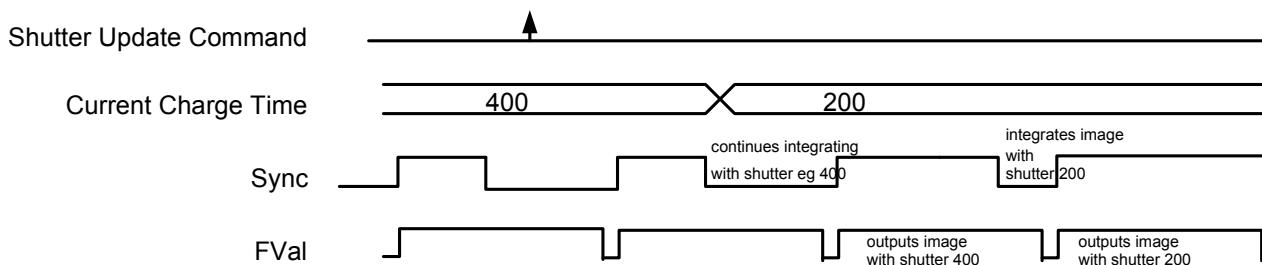

Figure 103: Former standard timing
- The delay from shutter update until the change takes place: up to 3 frames. Figure 103: Former standard timing on page 173 demonstrates this behavior. It shows that the camera receives a shutter update command while the sensor is currently integrating (Sync is low) with shutter setting 400. The camera continues to integrate and this image is output with the next FVal. The shutter change command becomes effective with the next falling edge of sync and finally the image taken with shutter 200 is output with a considerable delay.